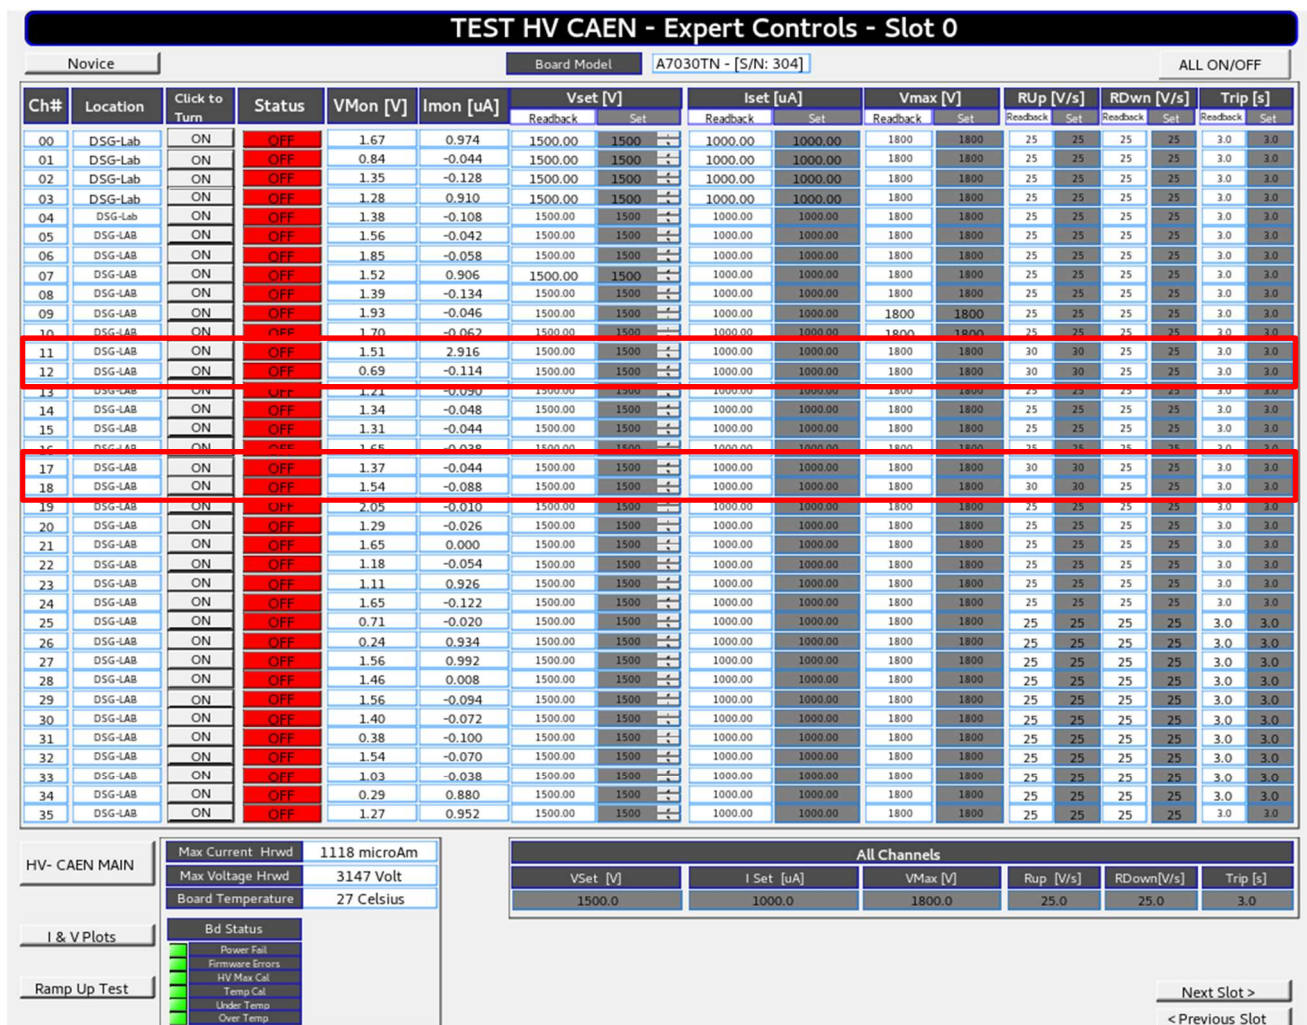

Fig.2 — Expert Controls CSS-BOY screen shows channel 11, 12, 17 and 18 with incorrect RUp values (30 V/s)
1.2. Verified that neither PVs and GECO values for mentioned channels went to set point. See fig.1 and fig.2.